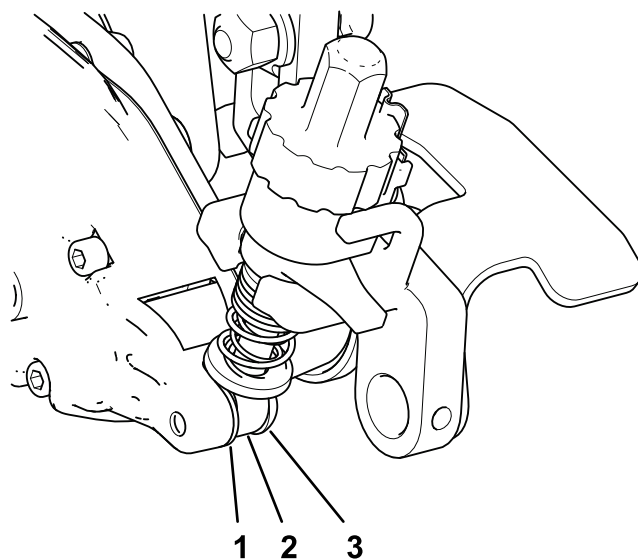

Figure 22
4. On the groomer drive box side, position the adjuster-arm rod of the HOC bracket on the inside of the groomer drive box and secure it with a shoulder bolt and a hardened washer as shown in Figure 22; torque the shoulder bolt to 16 to 22 N·m (12 to 16 ft-lb).